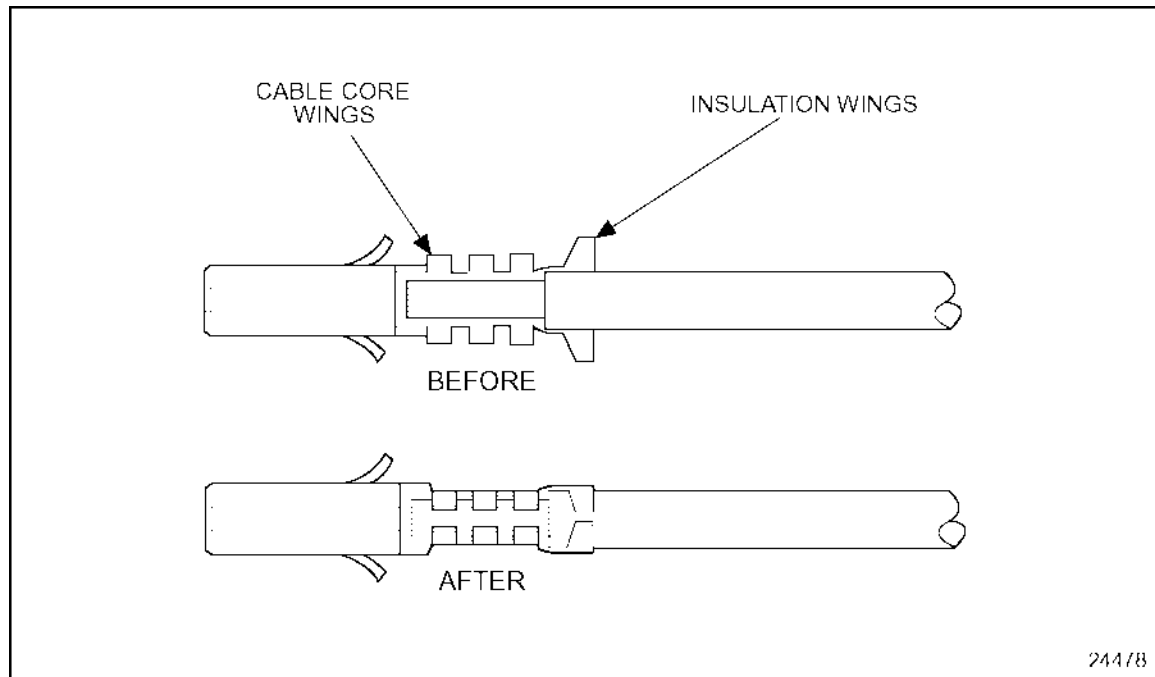

Figure 3-39 Typical Terminal Installation
4. Insert the cable into the terminal so the stripped portion is positioned in the cable core wings and the insulated portion of the cable is in the insulation wings (see Figure 3-39).